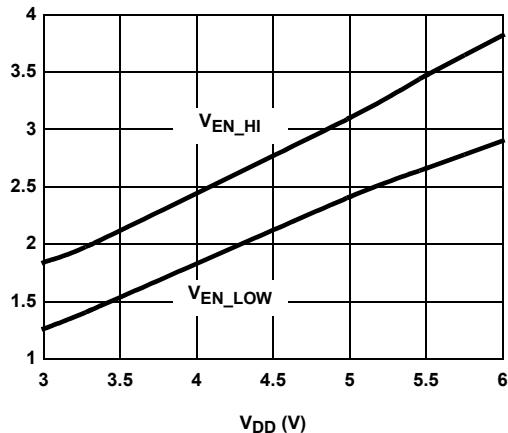

FIGURE 5.  $V_{EN\_HI}$  &  $V_{EN\_LOW}$  vs  $V_{DD}$
- $V_{EN\_HI}$  is the EN input high level (function of  $V_{DD}$  voltage, see Figure 5)